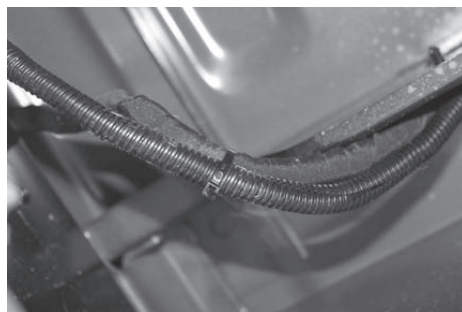

Figure 3
7. Route the portion of harness with the T-Connector ends containing Green wire to the Passenger side along the rear frame rail and secure the conduit to the existing factory wire harness shown in **Figure 3** with the cable ties provided.